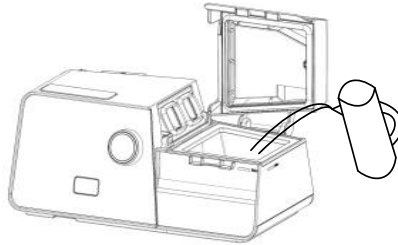

Fig. 14-4
- (2) Open the cap, and fill the water chamber with approximately 360 ml of water, as shown in Fig. 14-4. Make sure that the water does not exceed the maximum water level line.